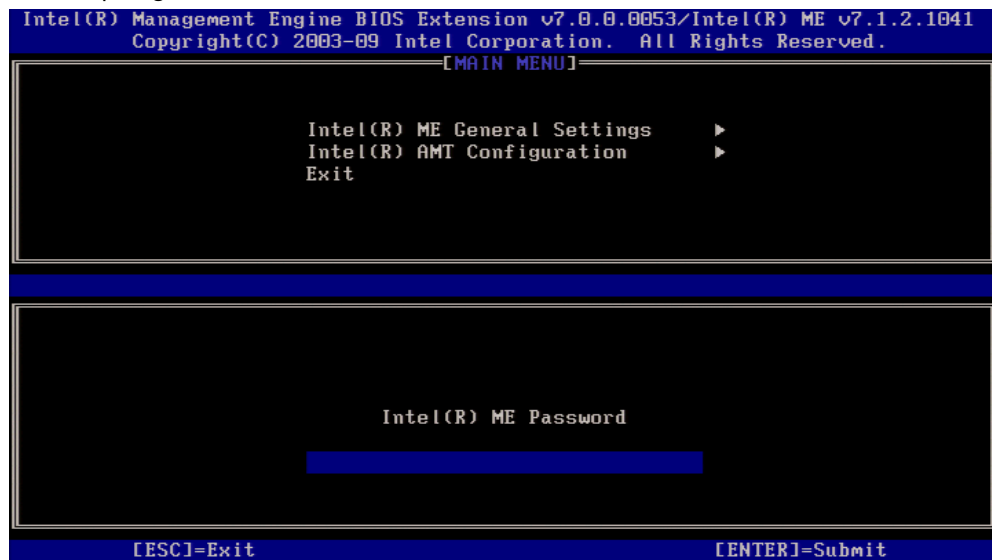

Figure 1. Intel MEBx Password Screen
1. Press **Ctrl-P** during POST to enter Management Engine BIOS Extension (MEBx) Setup (Figure 1).